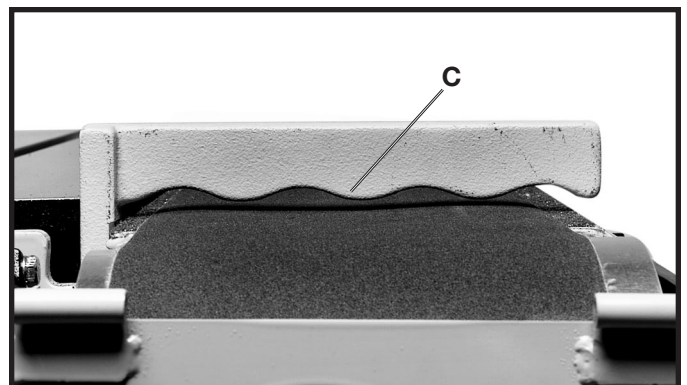

Fig. 13
**NOTE: THE BOTTOM OF THE BACK STOP (C) FIG. 13 SHOULD BE SET SLIGHTLY ABOVE THE BELT SANDER TABLE.**